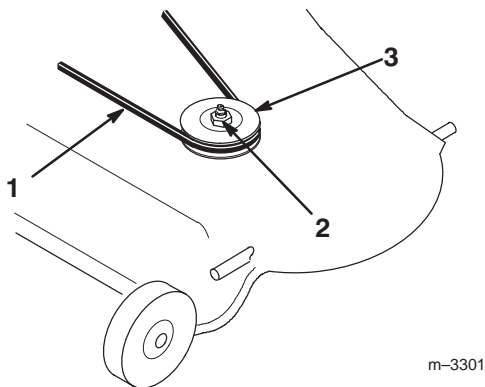

Figure 7
1. Pull on the mower idler assembly to release the belt tension and remove the blade drive belt from the right side pulley (Fig. 7).
2. Remove the nut and lock washer from the right hand blade spindle (Fig. 7).
3. Remove the single pulley (Fig. 7).